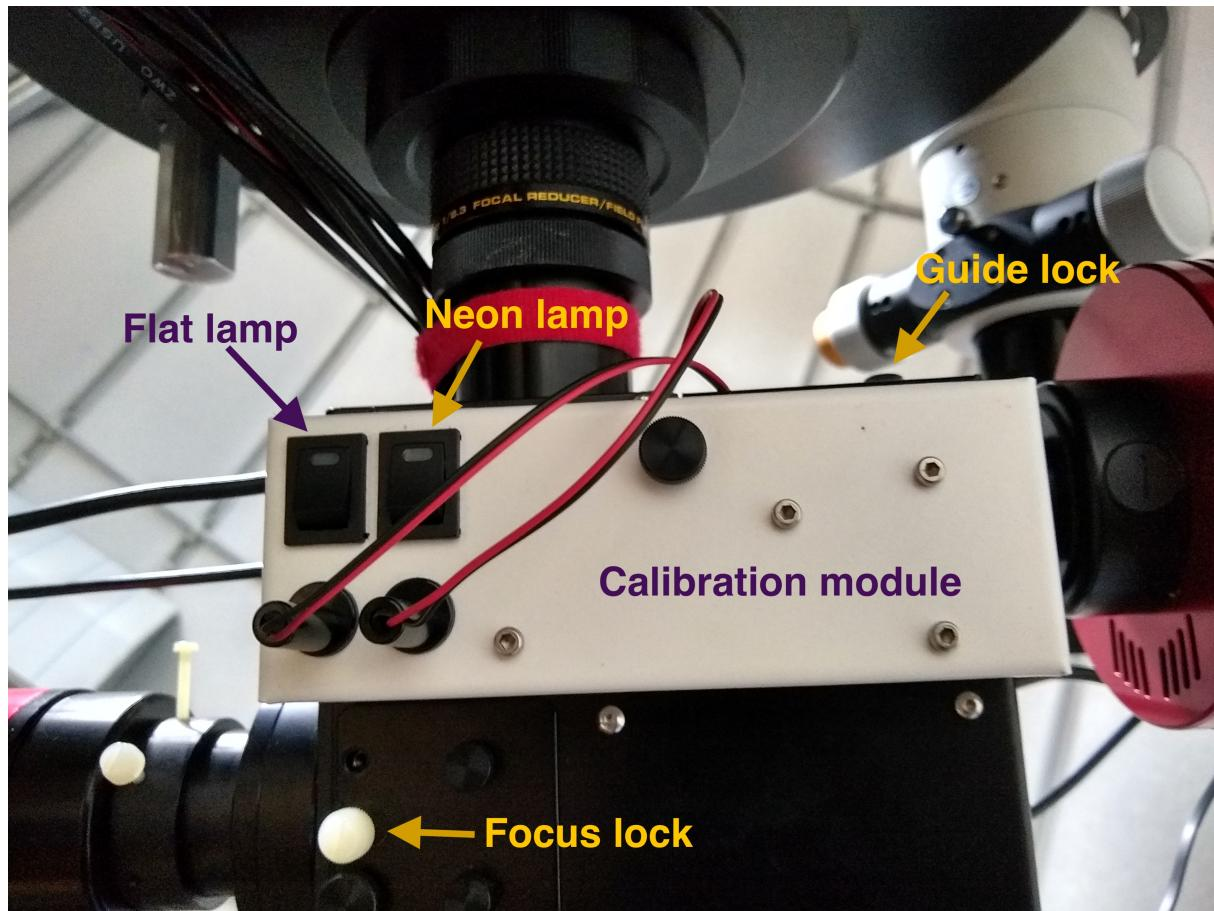

Fig. 26: The back side of the LISA with the calibration module and the location of the "focus lock" and the "guide lock".
- Slit is not horizontal: Loosen the "Guiding lock" screw (Fig. 26) to be able to rotate the Guiding camera. Rotate until the slit is horizontal. Tighten the screw to fix the camera in place.
- Slit/guide image is out of focus: Loosen the "Guiding lock" screw (Fig. 26) to be able to move the Guiding camera in and out of its slot until the slit is in focus. Tighten the screw to fix the camera in place.
The Neon lines do not fall on the same position of the CCD (e.g., when taking exposures at different times during the night): it is possible that the 'Focus Lock' button (Fig. 26) of the red cylindrical acquisition camera is not well tightened. You can tighten it. Note that when turning this button will very likely cause itself a shift of the lines and the obtained new calibrations lines might not be useful for data obtained before you tightened the button.